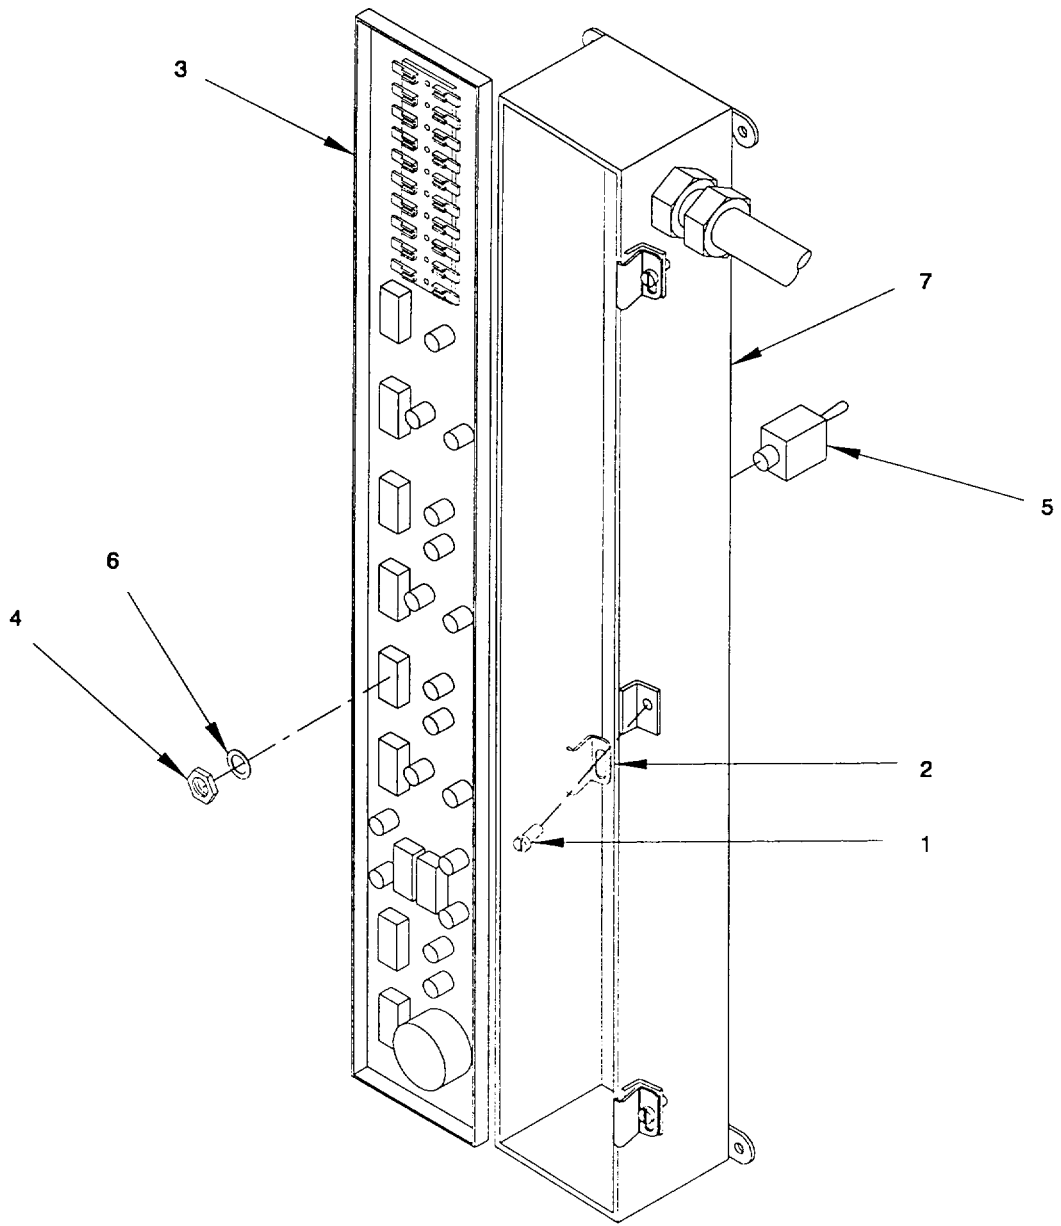

Figure 2-154. Toggle Switch, Mast Enclosure, Remove/Install.
- a. *Remove.* (figure 2-154)
- (1) Remove three screws (1) and three clamps (2) securing door (3) to mast enclosure (7).
- (2) Open enclosure door to access interior of mast enclosure (7).
- (3) Disconnect electrical wiring to enclosure (7) and tag OUT OF SERVICE. Refer to Appendix G.
- (4) Remove the hex nut (4) (supplied with each switch) to free toggle switch (5) from enclosure door (3). Collect lockwasher (6) (also supplied with switch).
- b. *Install.* (figure 2-154)
- (1) Position toggle (5) switch with lockwasher (6) (supplied with each switch) on enclosure door (3) and secure with hex nut (4) (supplied with each switch).
- (2) Connect electrical wiring to mast enclosure (7). Refer to Appendix G.
- (3) Close mast enclosure door (3) and secure with three clamps (2) and three screws (1).